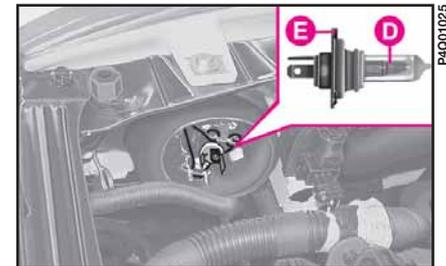

fig. 14
3) fit a new bulb, making the tabs **E**-fig. 14 on the metal part coincide with the specific housings on the headlight dish;